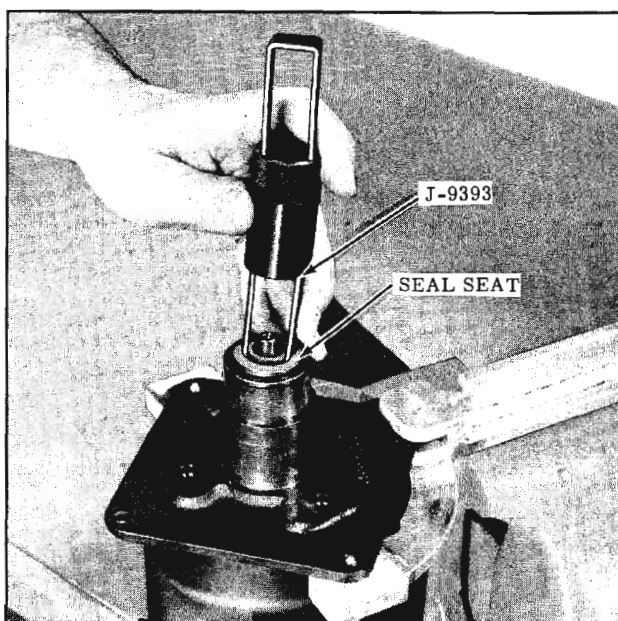

Fig. 15-60 Removing Seal Seat
- 4. Remove the seal seat with Tool J-9393 as shown in Fig. 15-60.